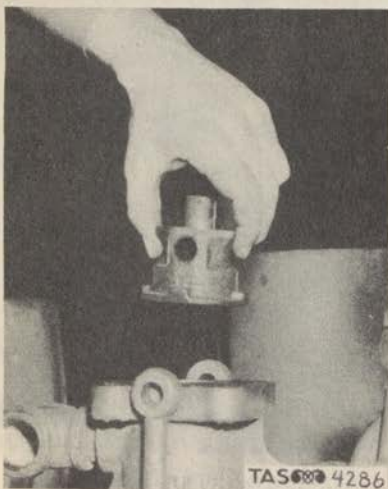

Figure 277. Removal
(9) Remove the plunger. (Fig. 277)